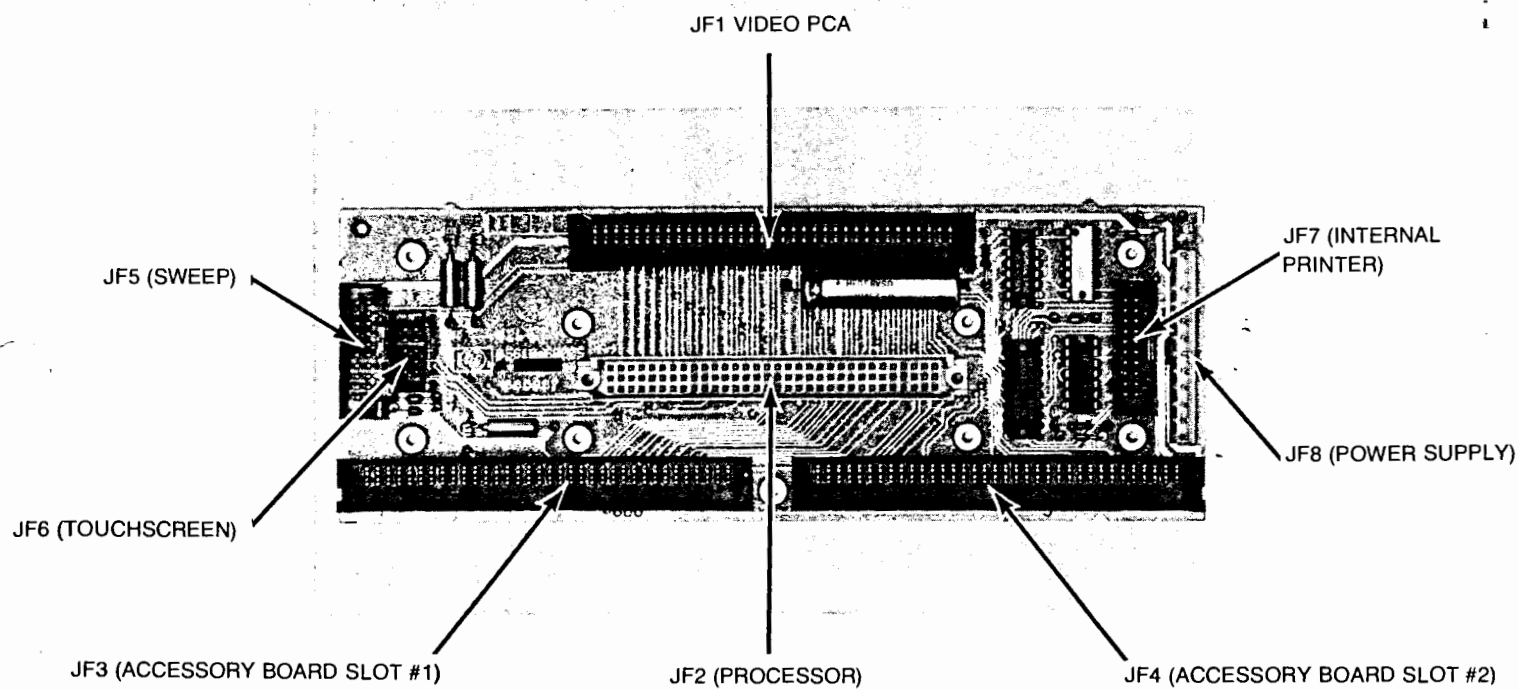

Figure 8-7. HP 150 Front Plane
3. Looking inside the unit from the back, disconnect the two flat ribbon cables on the left from their respective connectors (JF5 and JF6) on the Front Plane (see figure 8-7). Next, disconnect the flat ribbon cable and the cable assembly on the right from their respective connectors (JF7 and JF8).